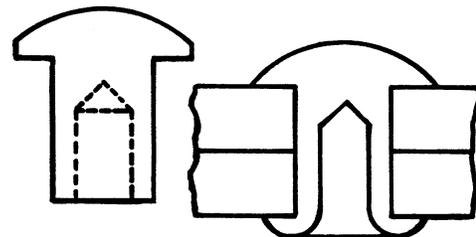

Figure 41.—Full tubular rivet. (From ref. 5.)
**Full tubular rivets:** The full tubular rivet (fig. 41) has a deeper hole than the semitubular rivet. It is a weaker rivet than the semitubular rivet, but it can pierce softer materials such as plastic or fabric.